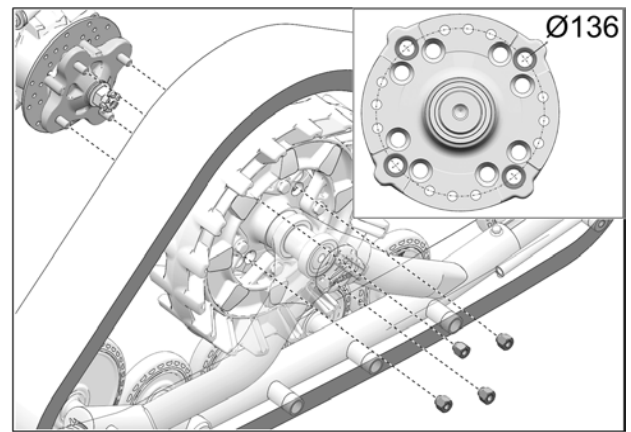

Fig. 16
- Secure undercarriage to front hub using the vehicle's own lug nuts. Use bolt circle $\text{Ø}136\text{mm}$. See Fig. 16